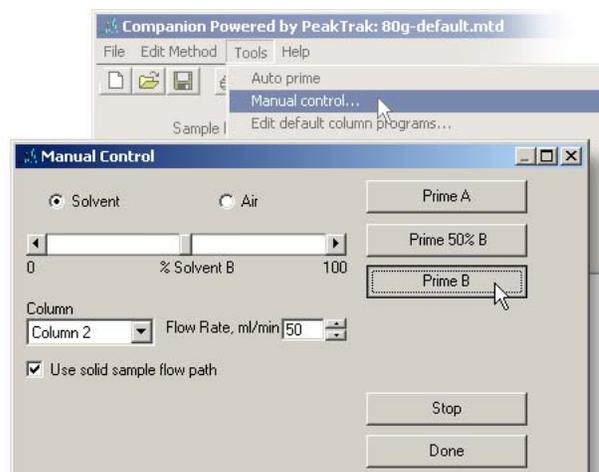

Figure 4: Tools>Manual Control menu command
Solvent changeover steps using the Autoprime feature may also be performed using the Tools>Manual Control menu command (Figure 4). Manual control requires the user to be present at all times.
2. Select the Tools>Manual Control menu command (Figure 4).